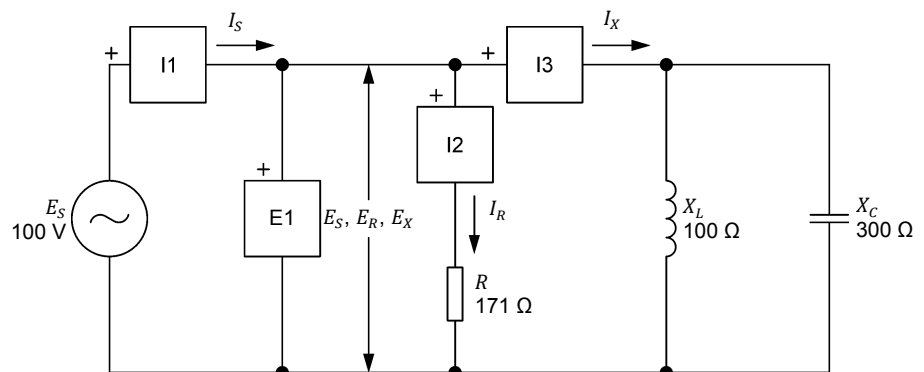

Figure 3-15. Parallel ac circuit containing a resistor, an inductor, and a capacitor, and set up for power measurements.
19. Set up the circuit shown in Figure 3-15.
Power triangle of the circuit in Figure 3-15.